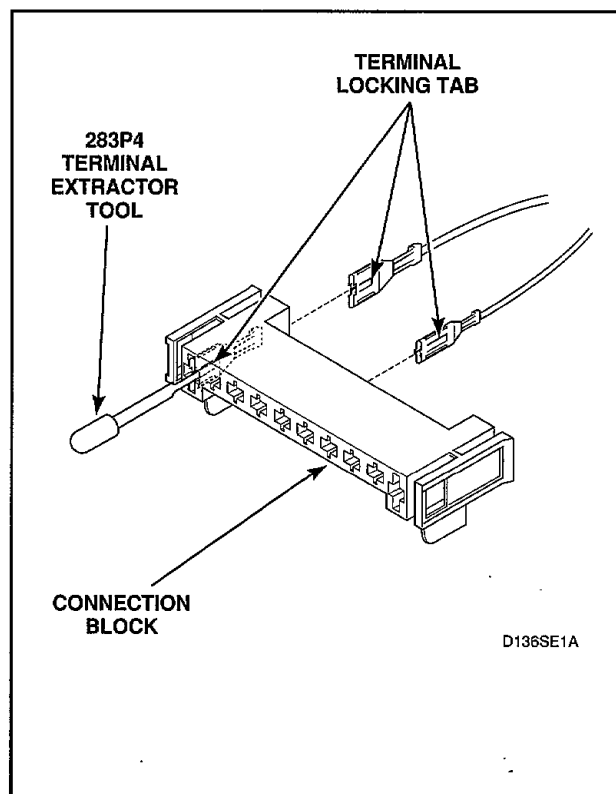

Figure 38
- (1) Insert the tool into the block on the back of the terminal being removed, *Figure 38*.
- (2) Apply tool pressure to compress the terminal locking tab on terminal and force the terminal and wire out back side of connection block, *Figure 38*.